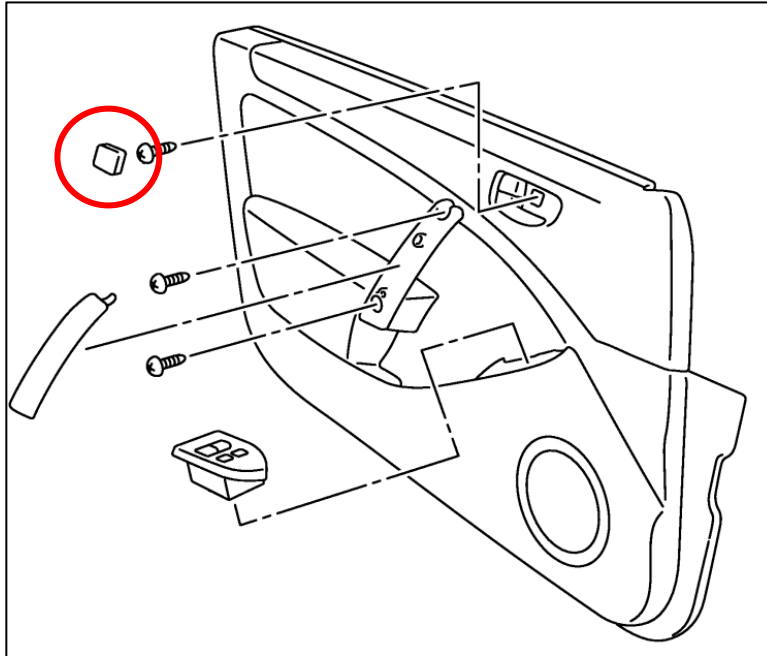

Figure 10
3. Pull the Door Release Handle and remove the small Trim Piece behind it with a Trim Removal Tool. *Figure 10.*